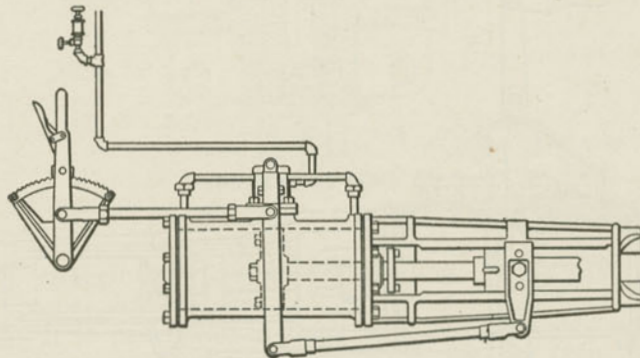

Fig. 199. Alco Reverse Gear.
A. There are two general types, one for steam, the other for air (see Fig. 199). There is a flat rotary valve operated by the reverse lever in the cab, and moving the